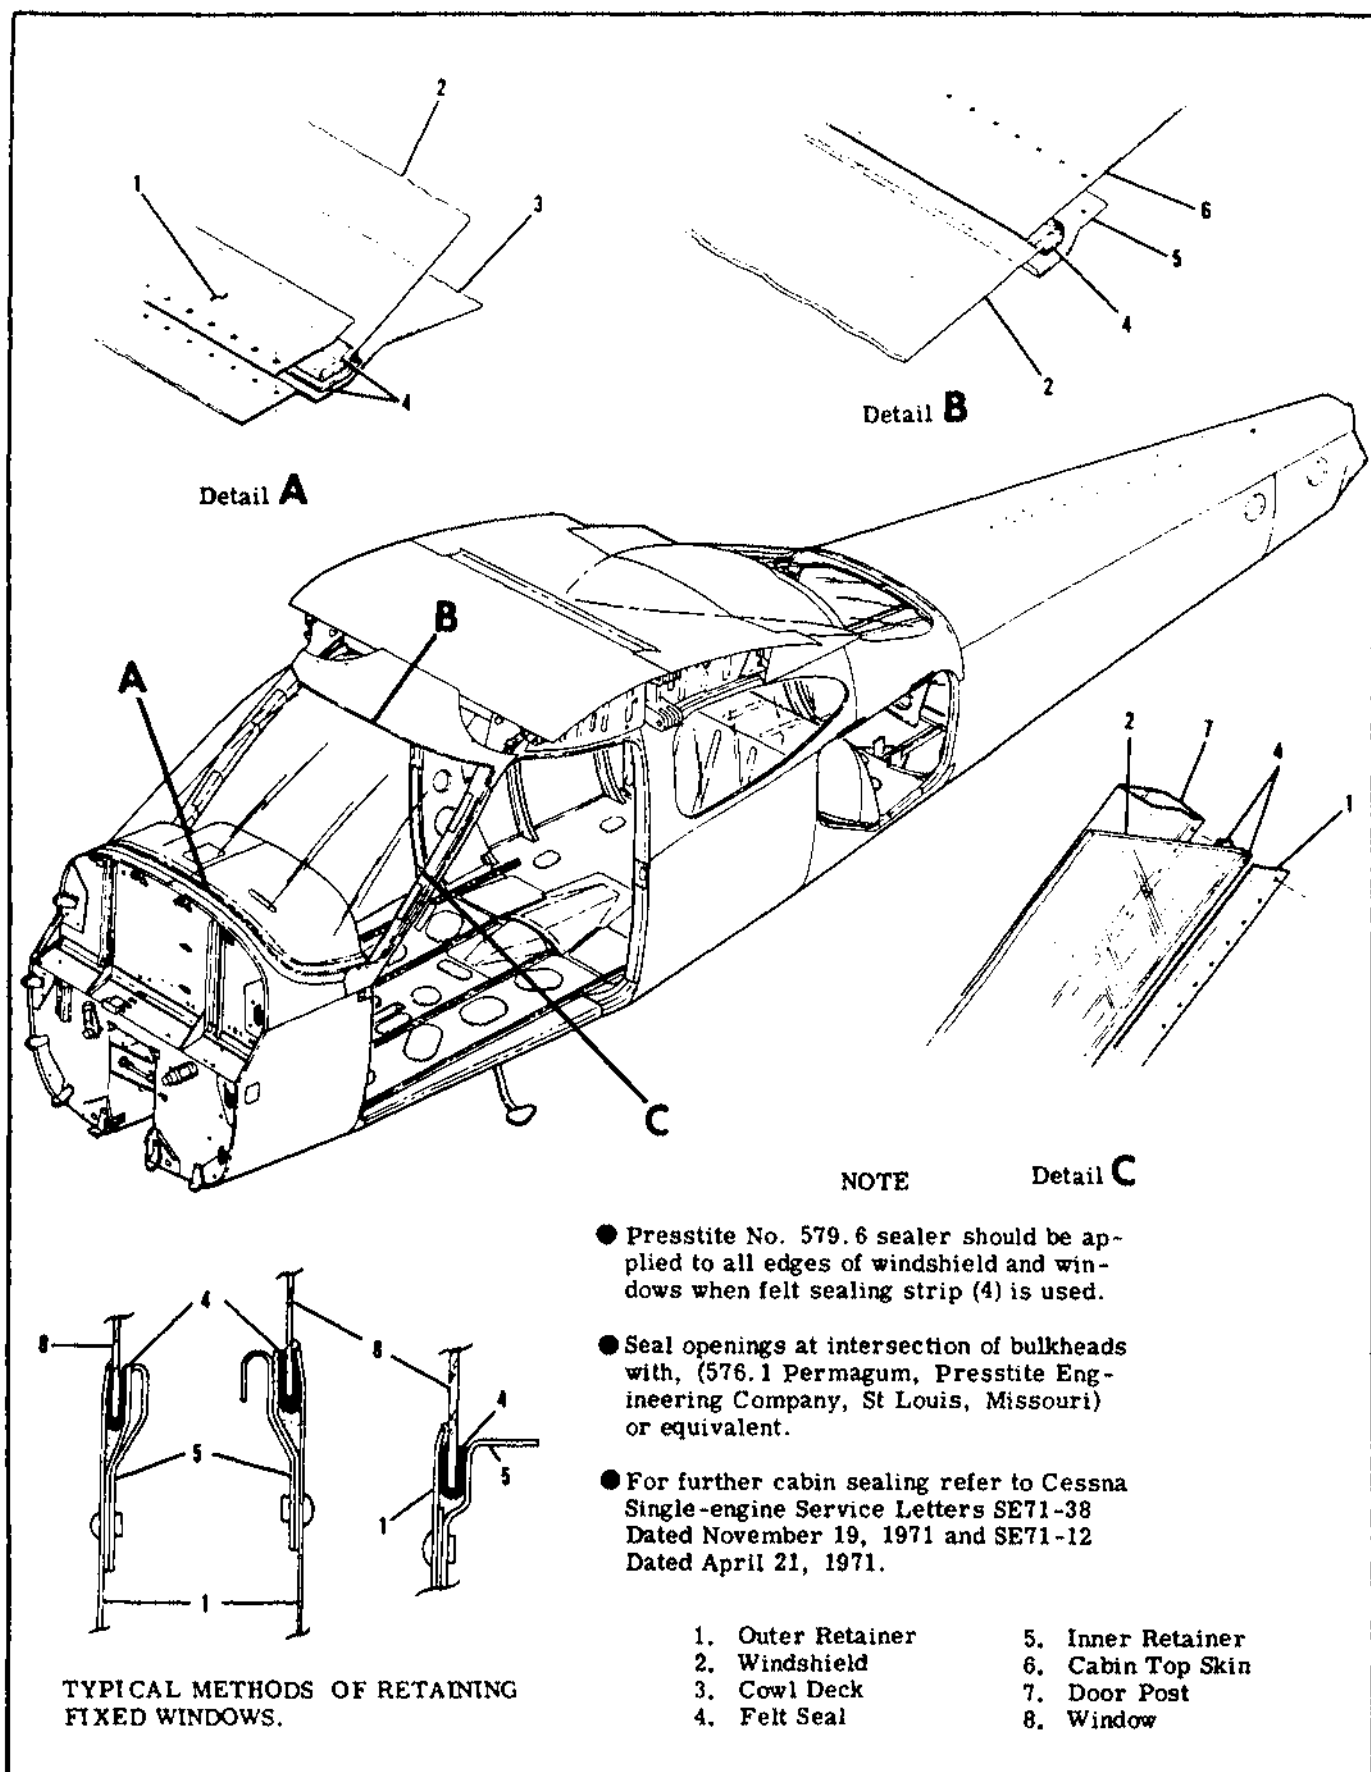

Figure 3-2. Windshield and Fixed Window Installation
3-9. WINDSHIELD. (Refer to figure 3-2.)
- SIDE WINDOWS. (Refer to figure 3-2.)